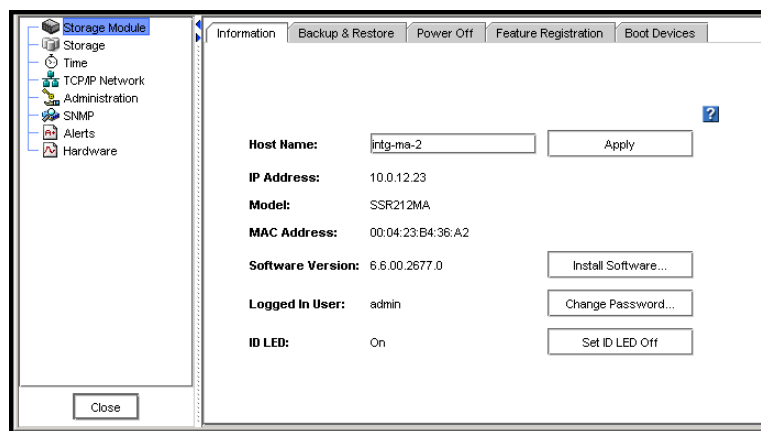

Figure 7. Viewing the Edit Configuration window
3. Click Storage Module Tasks and this time select Edit Configuration. The Edit Configuration window appears, as shown in Figure 7.